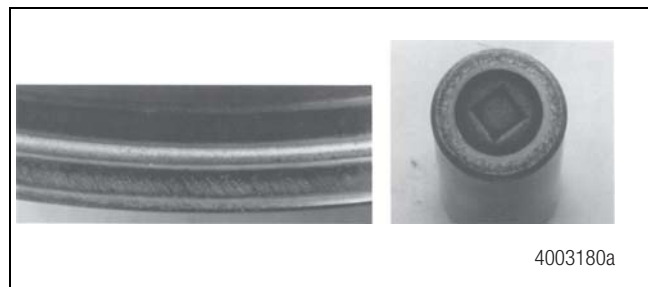
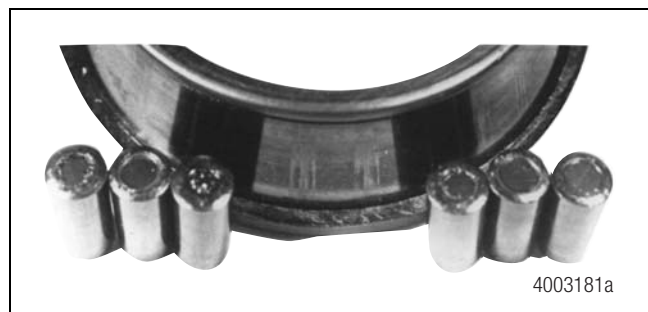

Figure 4.10
Figure 4.11
C. The roller ends and ribs are scored. Figure 4.10 and Figure 4.11.